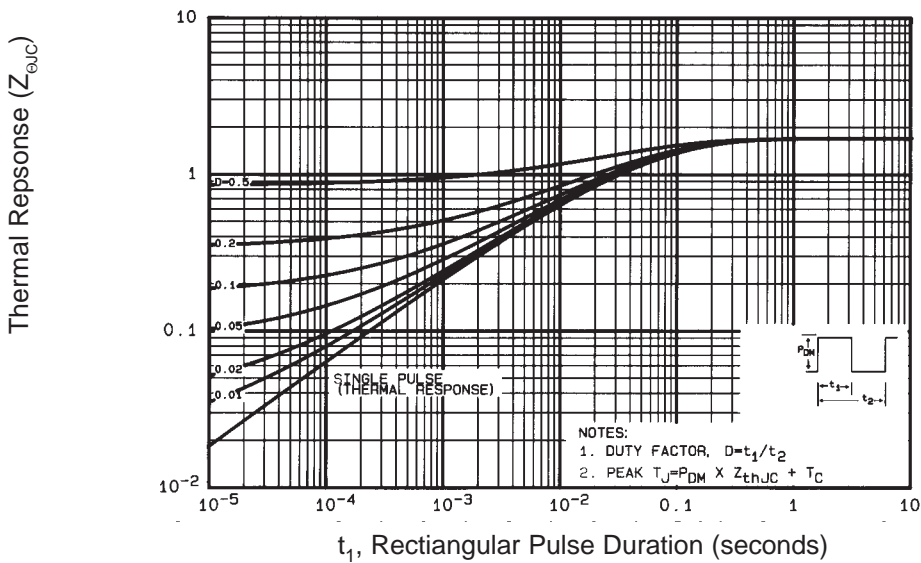

Fig. 11 Maximum Effective Transient Thermal Impedance, Junction-to-Case
- ① Repetitive rating; pulse width limited by max. junction temperature. (See fig. 11)